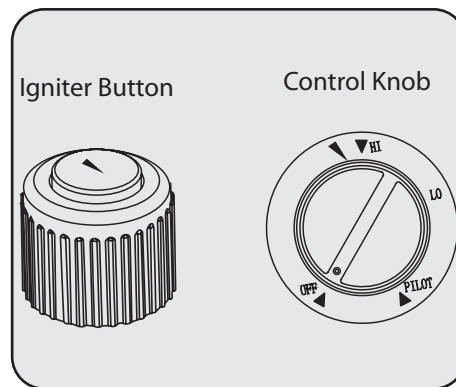

Figure 15
3. Push in gas control knob and slightly turn clockwise ↻ to the OFF position See Figure 15.
4. Wait five (5) minutes to clear out any gas. Then smell for gas, including near the floor. If you smell gas, **STOP!** Follow "B" in the safety information above. If you do not smell gas, go to the next step.
5. Push in gas control knob slightly and turn counterclockwise ↻ to PILOT/IGN and depress for five (5) seconds.
7. Keep control knob pressed in for (30) seconds after lighting pilot. After 30 seconds, release control knob.